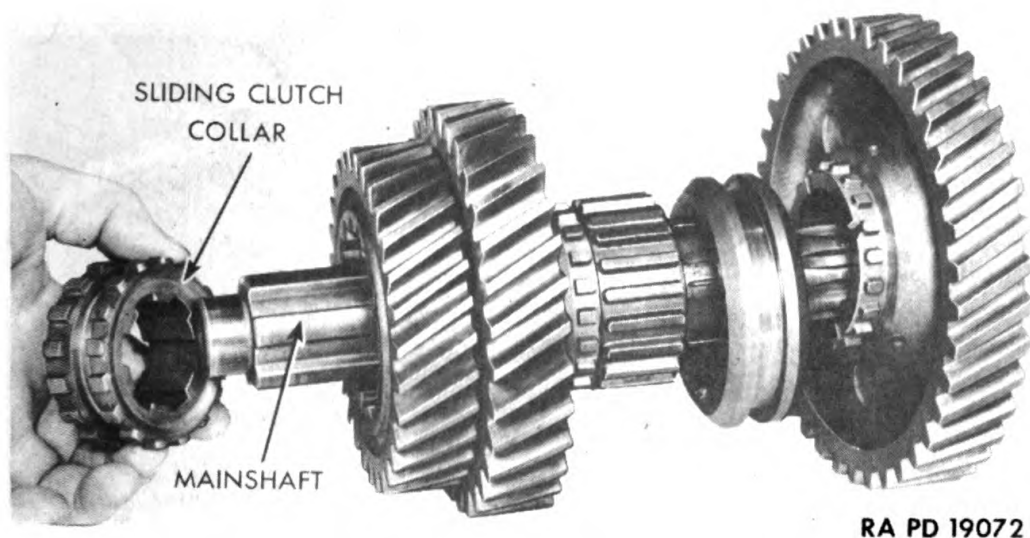
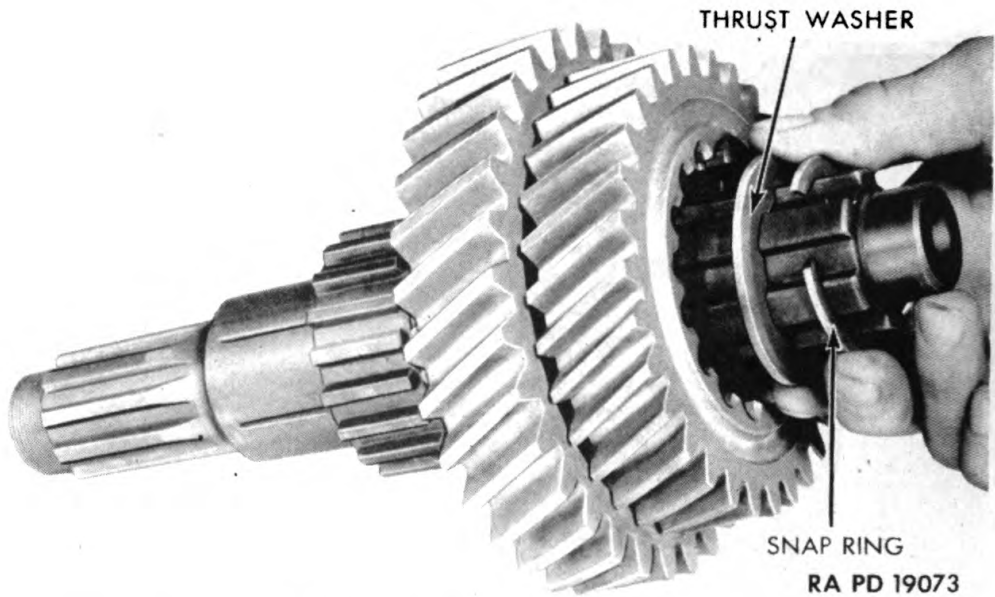
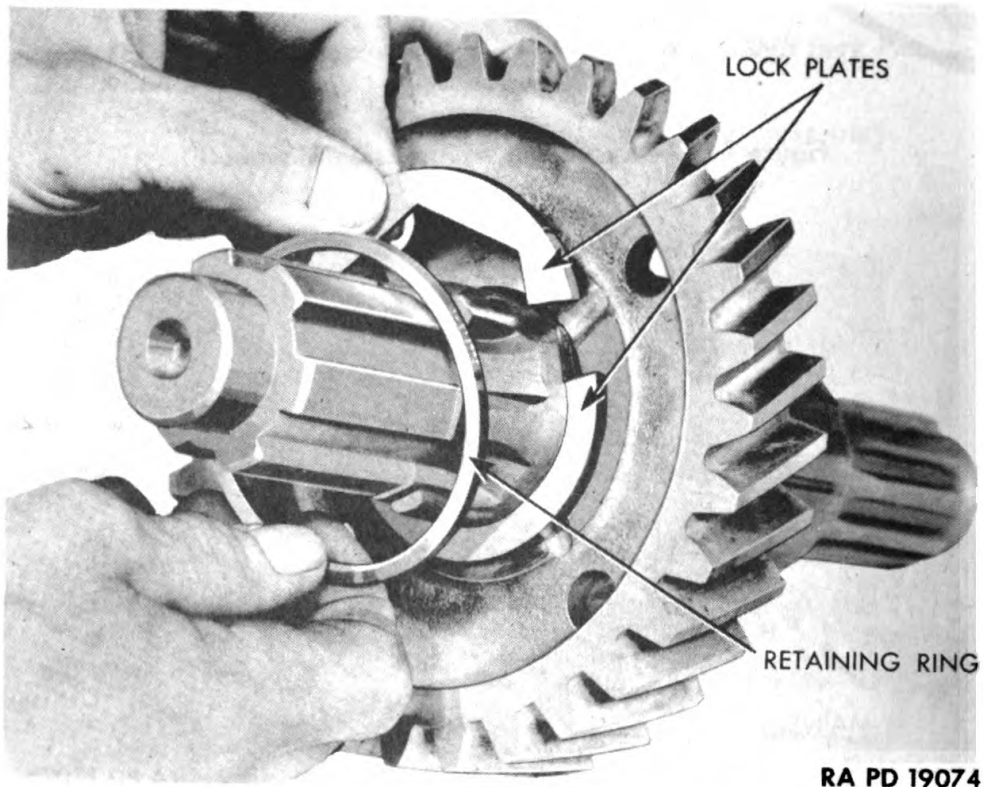

Figure 150 — Removing Third Speed and Fourth Speed Sliding Clutch Collar
Figure 151 — Removing Mainshaft Third Speed Gear Snap Ring and Thrust Washer
Figure 152 — Removing Mainshaft Second Speed Gear Lock Plates and Retaining Ring
n. Disassemble Transmission Mainshaft and Gears. Remove third and fourth speed sliding clutch collar (gear) from front end of mainshaft (fig. 150). Remove transmission mainshaft first speed gear, which is free on shaft, from rear end of mainshaft. Remove first speed clutch collar from shaft. Remove mainshaft third speed gear retainer snap rings at front end of shaft by prying out of groove, and remove splined thrust washer (fig. 151). Remove mainshaft third speed gear, which is free on shaft, from mainshaft. Remove mainshaft second speed gear retaining ring, and pry split lock washer (lock plates) out of groove in shaft (fig. 152). Remove mainshaft second speed gear, which is free on shaft, from mainshaft.